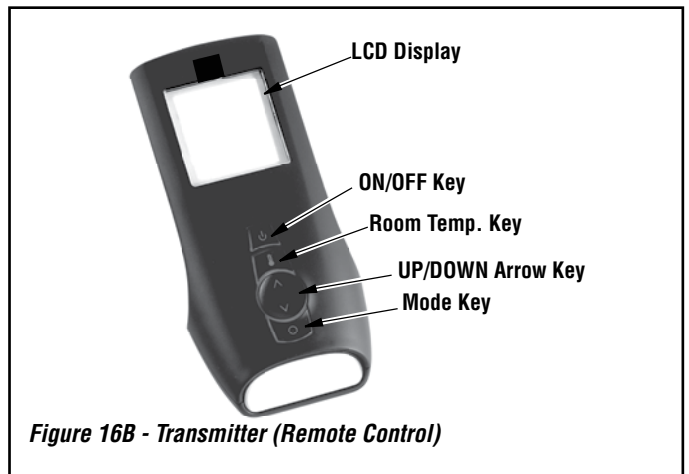

Figure 16B - Transmitter (Remote Control)
4. On the transmitter (**Figure 16B**), press the ON button. The receiver will "beep" three times to indicate acceptance of the transmitter's command (and set the receiver to the transmitter's specific code). The system is now initialized.